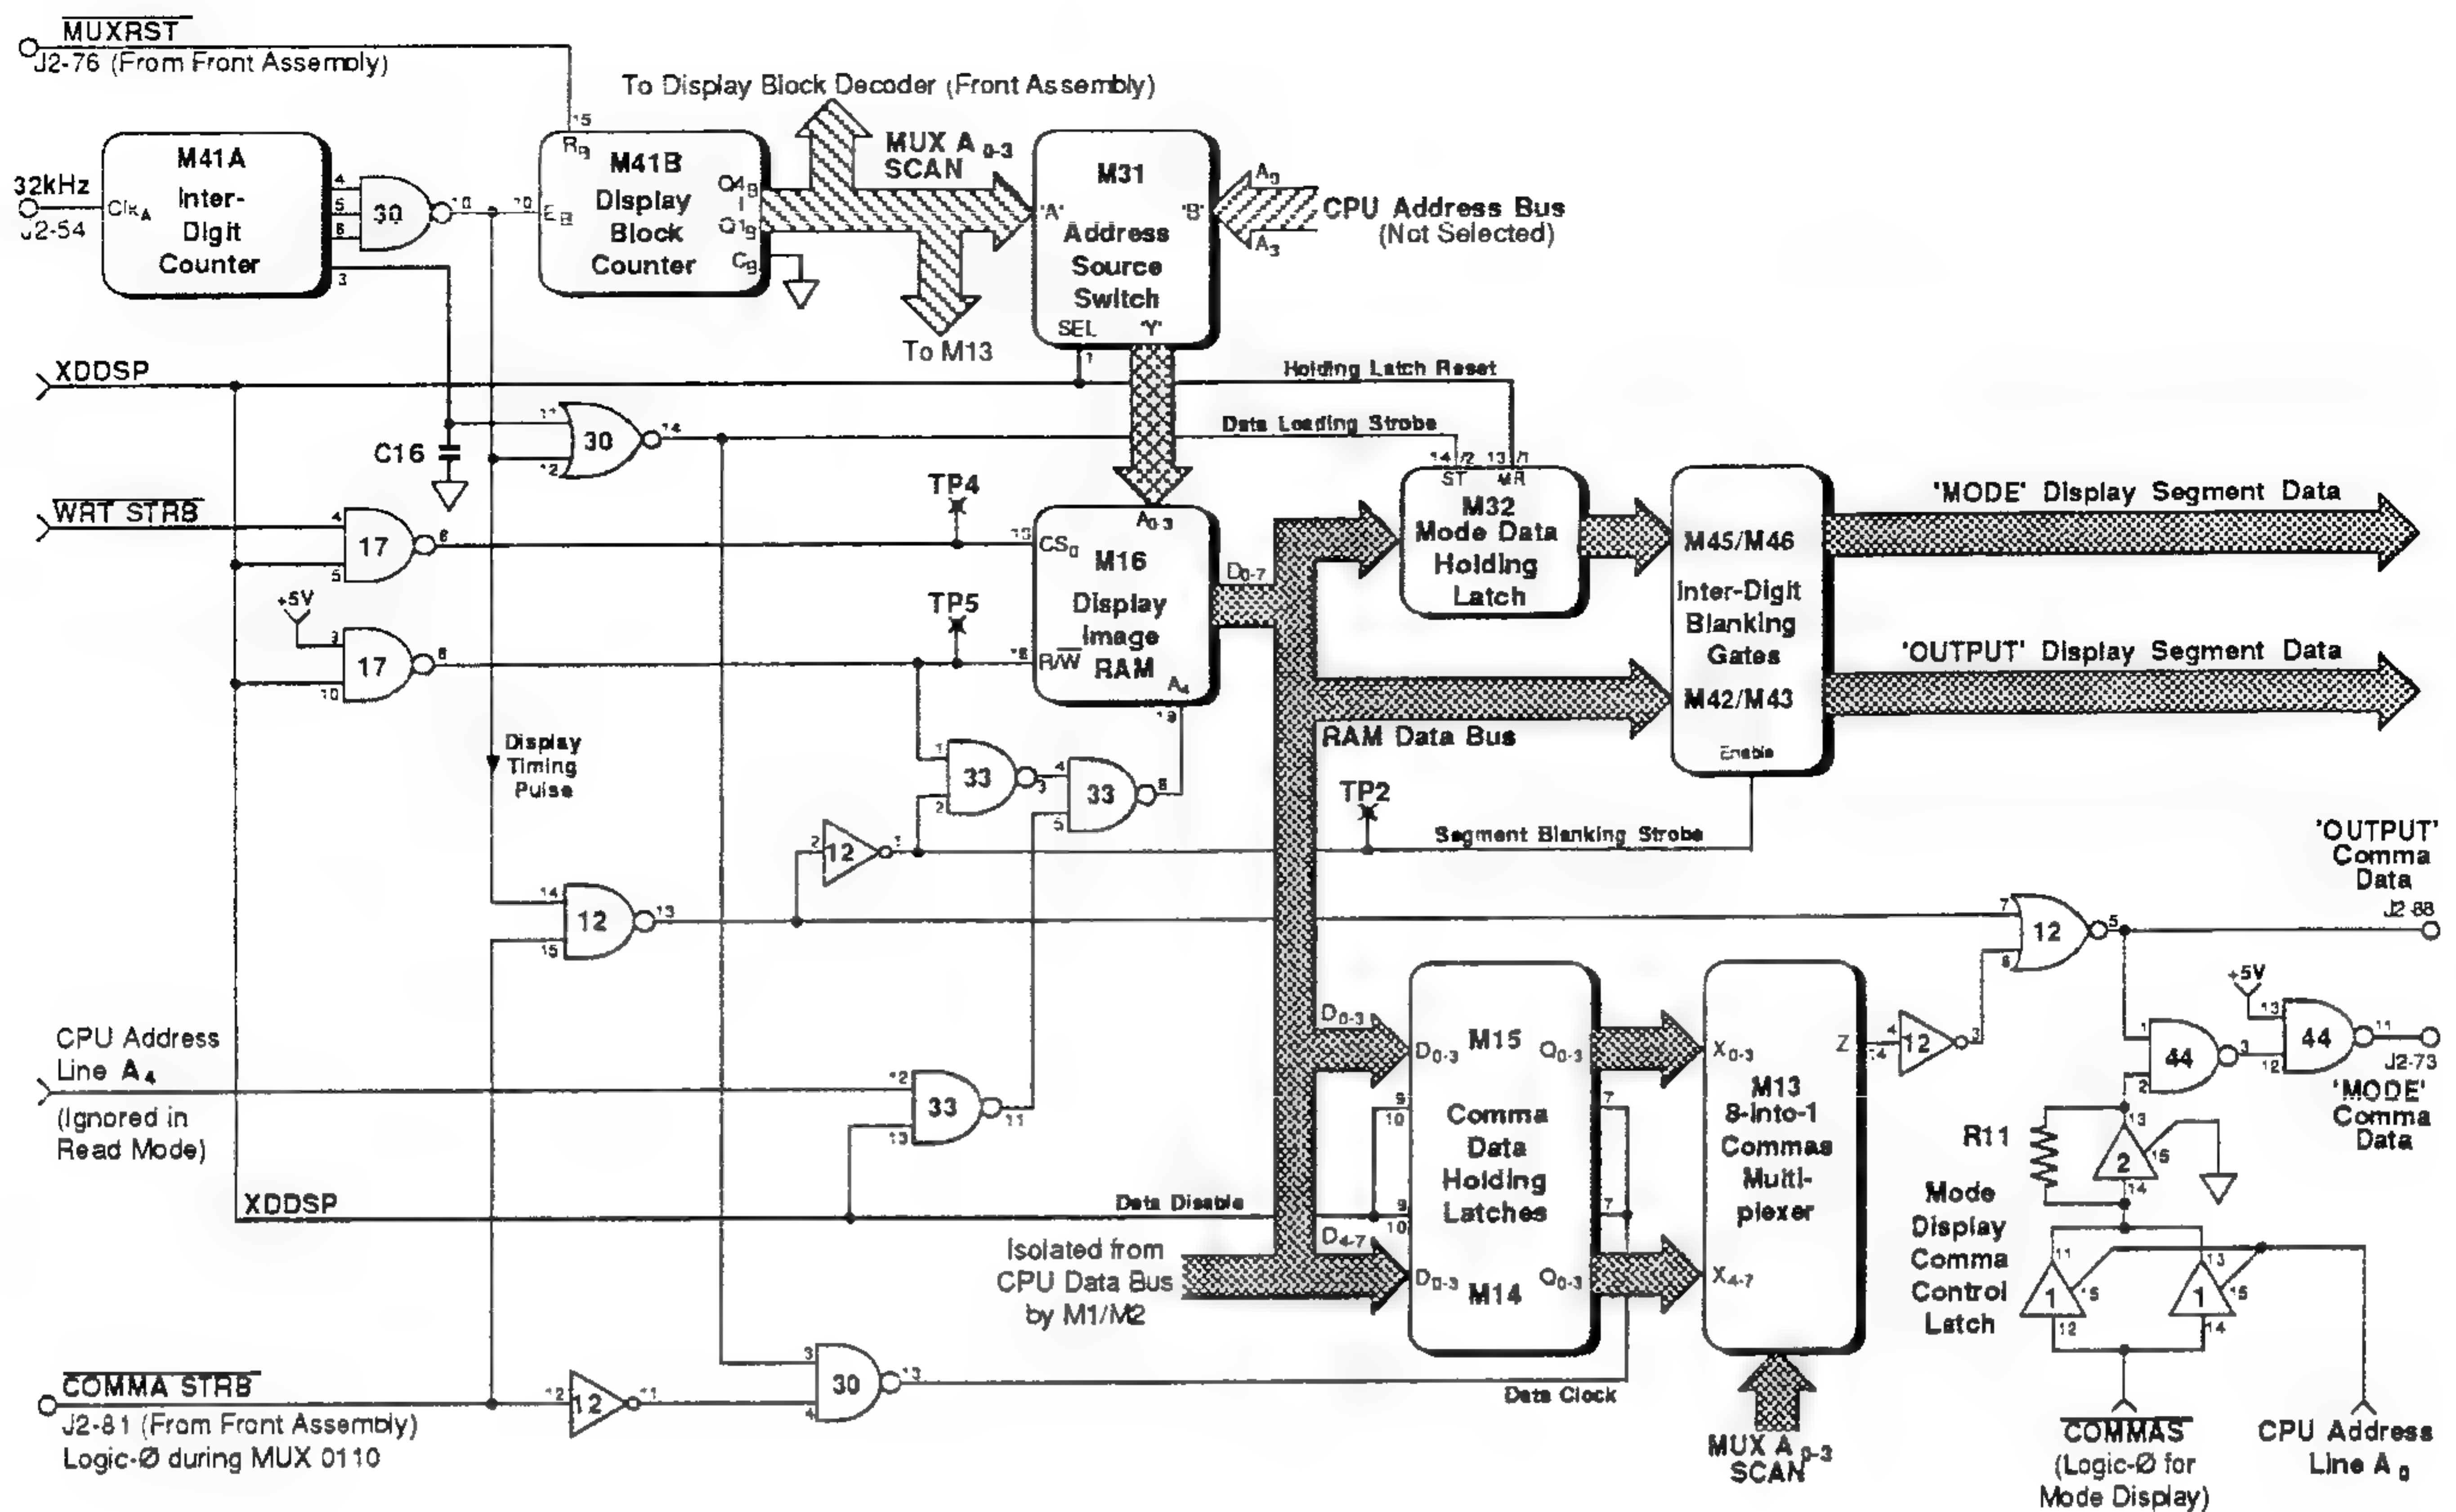

FIG. 6.10 READ MODE LOGIC - RAM ACCESS AND SEGMENT SWITCHING
6.3.4.6 Comma Logic (Figs. 6-10 and 6.13) (Circuit Diagram 430559 Page 112-1)